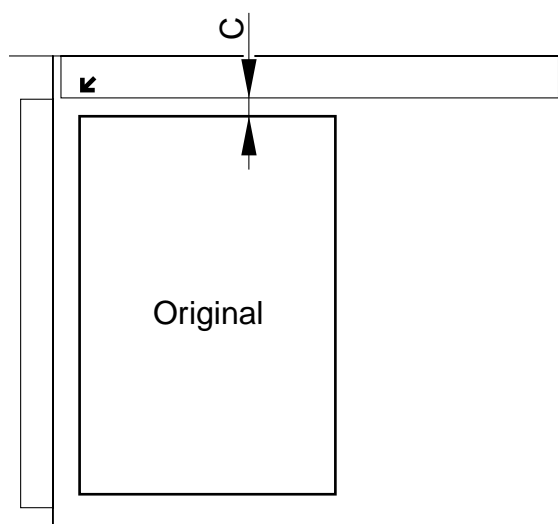

Figure 5-134
- 5) Open the ADF, and check to make sure that C shown in Figure 5-134 is as follows.